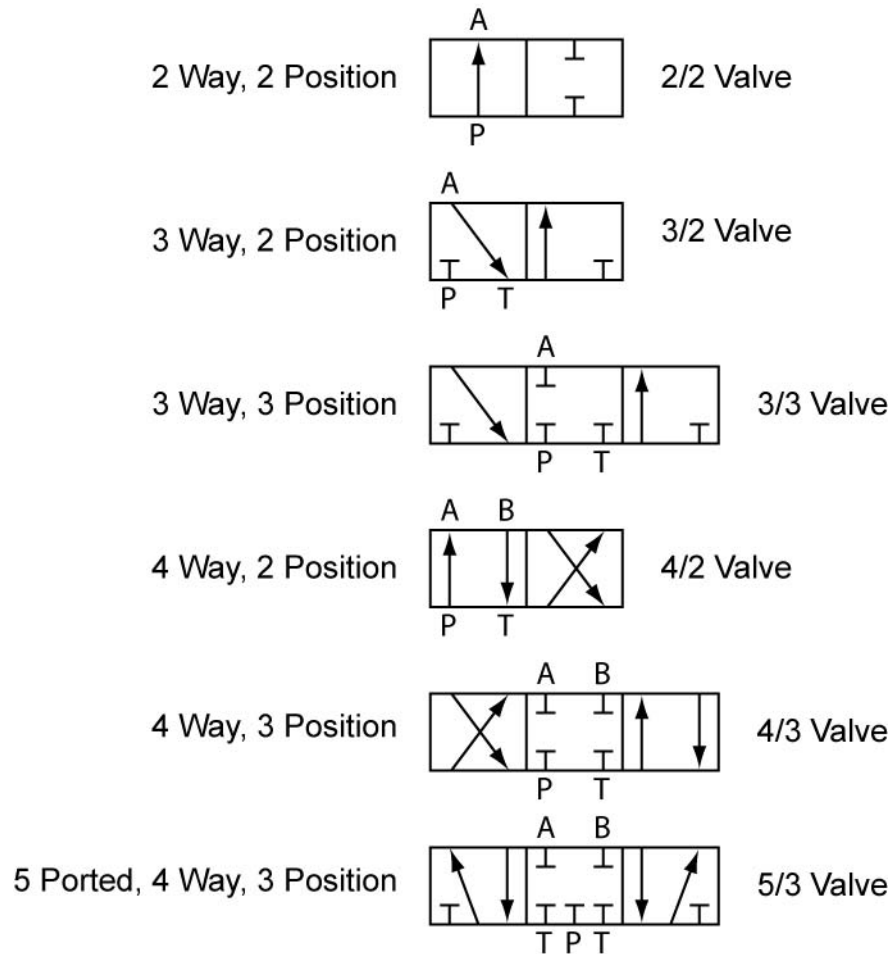

Figure 10: Symbols for an Assortment of Valves
- The term “way” depicts the number of paths the pressurized air can take within the valve. “Port” is the count of all the openings that the valve has for air to enter or exit. “Position” refers to the maximum number of positions the valve element can assume within the valve body (Figure 10). Note: The arrows show the flow paths in different positions. The T inside the symbol represents a closed port. When using the symbols in drawings, the connections are labeled in the nonenergized state.